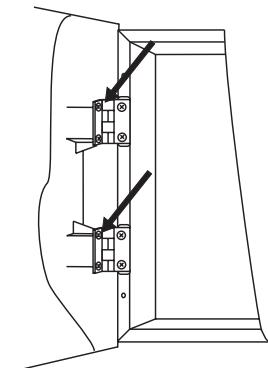

Figure 3
- Remove the front cover as first disconnect the flat-cable for panel indication. After that unscrew the hinge bolts on the side of the front panel - Figure 3. (*Note: You can unscrew and the hinge bolts on the side of the metal box. The special here is the presence of two plastic pads situated under the hinges. The pads have to be returned back under the hinges at closing the front cover.*)